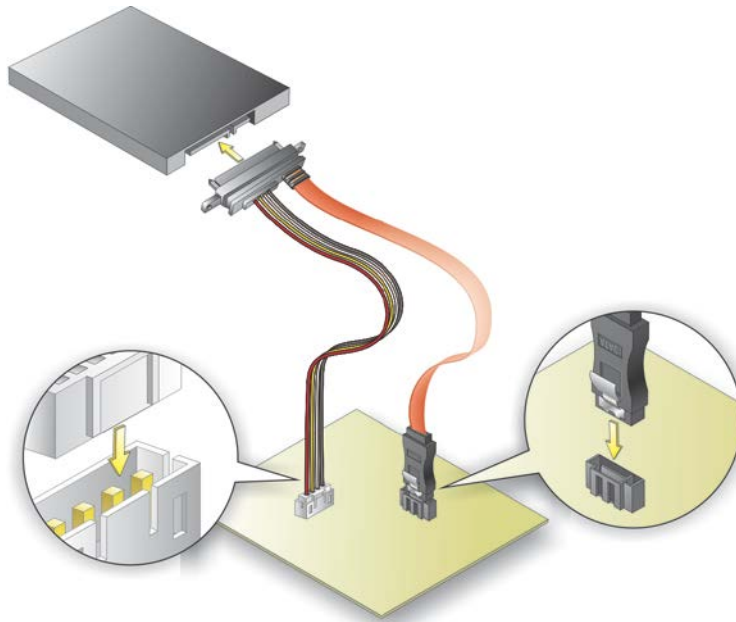

Figure 4-3: SATA Drive Cable Connection
Step 2: **Insert the cable connector.** Insert the cable connector into the on-board SATA drive connector and the SATA power connector. See **Figure 4-3**.
Step 3: **Connect the cable to the SATA disk.** Connect the connector on the other end of the cable to the connector at the back of the SATA drive. See Figure 4-3.